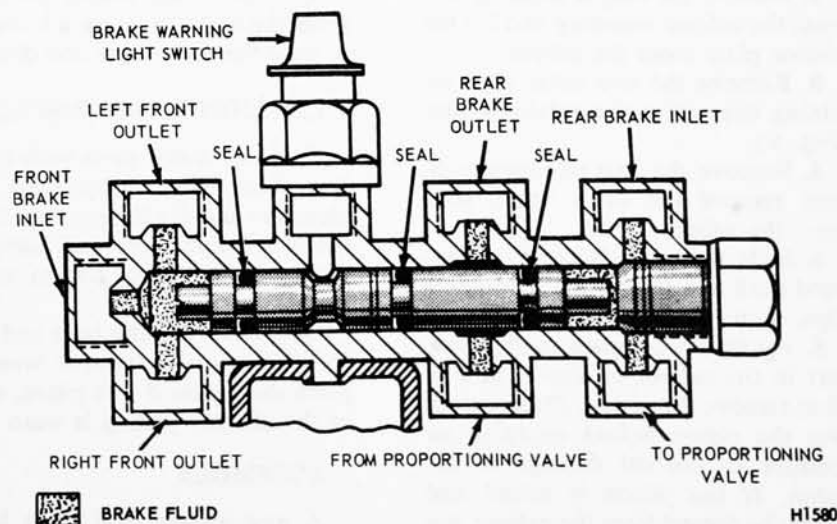

Fig. 7—Pressure Differential Valve
1. Disconnect the brake warning light wire from the pressure differential valve assembly switch (Figs. 7 and 8). **To prevent damage to the brake warning switch wire connector, expand the plastic lugs to allow removal of the shell-wire connector from the switch body.**